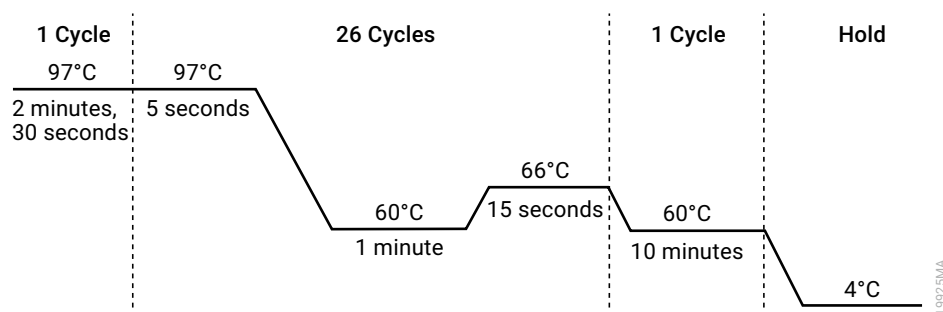

Figure 5. Thermal cycling protocol for the ProFlex® PCR System.
2. Select and run the protocol provided below and in Figure 5. The total cycling time is approximately 65 minutes.